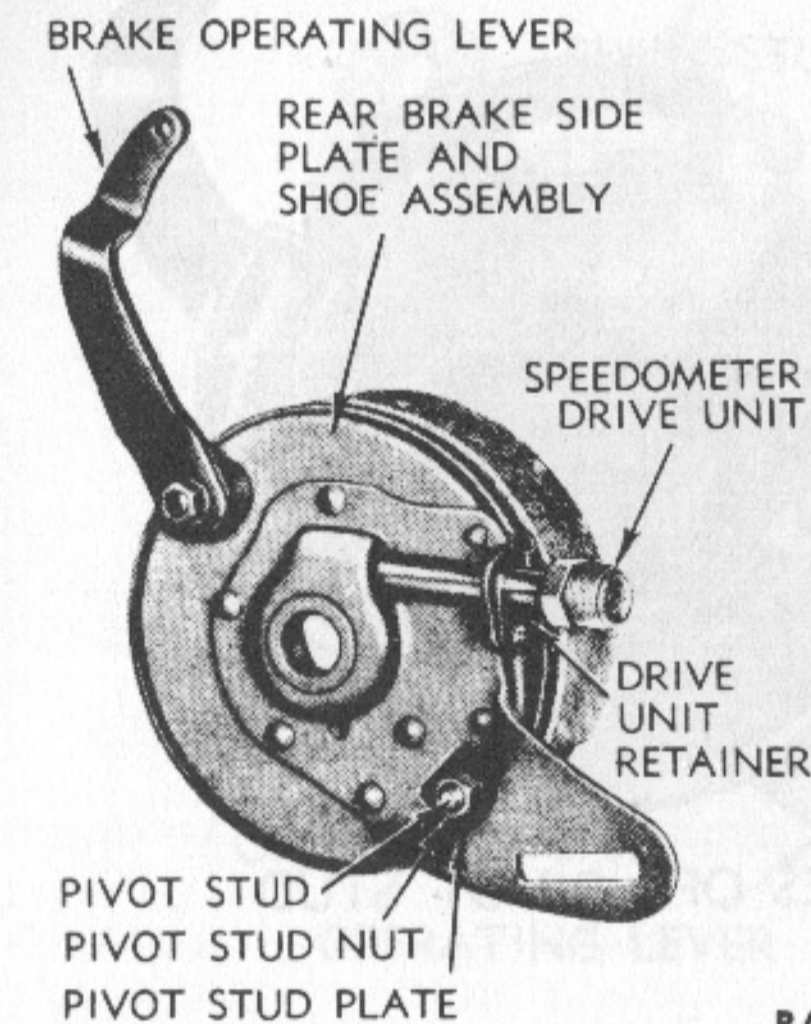

Figure 110—Rear Wheel Brake Assembly
(1) Shaft end in small bushing, 0.001 inch.
(2) Shaft body in large bushing, 0.0015 inch.
93. DESCRIPTION (fig. 110).
c. **Install Speedometer Drive Unit.** Install the speedometer drive unit in the side cover and secure with retainer, lock washer, and screw (fig. 110).